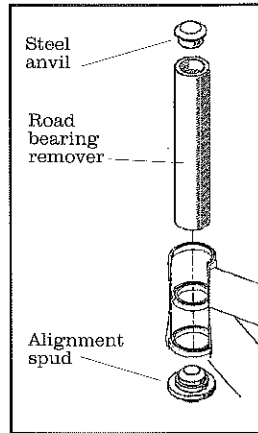

Fig. 22
1. Insert the **steel anvil** into the thin-walled end of the **road bearing remover** (Fig. 22).